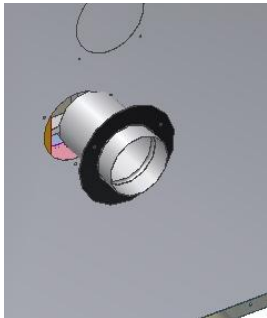

Figure 11
- Insert the fresh air adaptor (Figure 11).